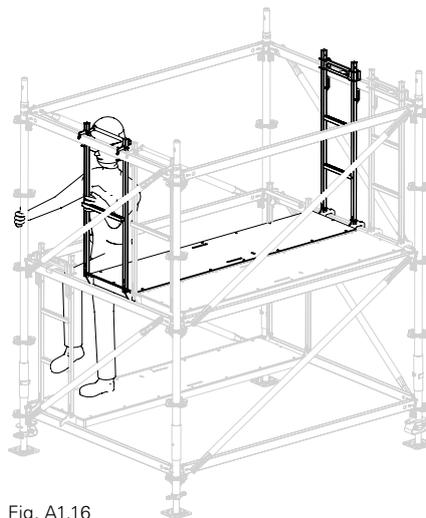

Fig. A1.16
4. Moving additional decking upwards in the same way, Points 1 – 3. (Fig. A1.16)
5. Climb up to the top decking level before moving the last deck. (Fig. A1.16)